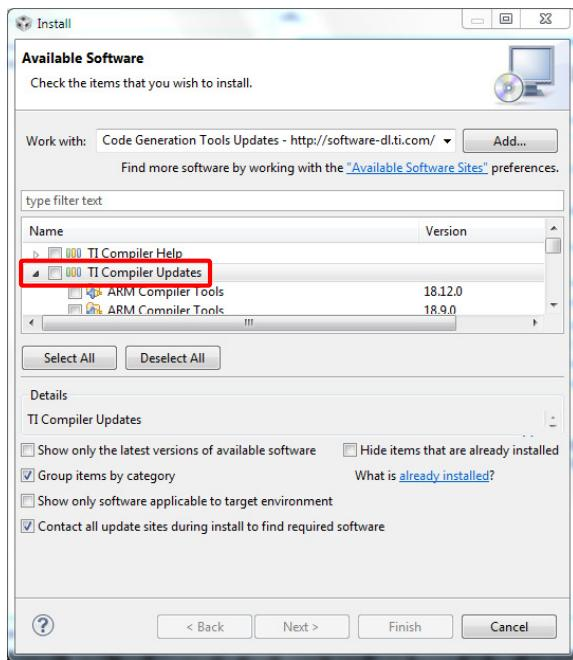
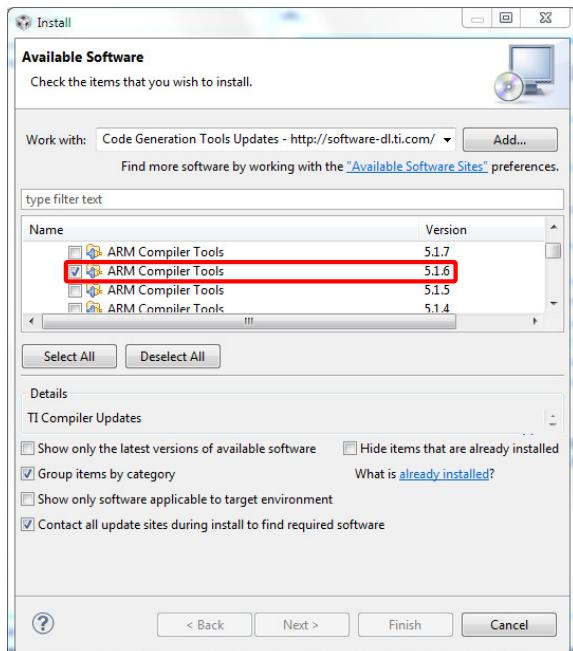

Figure 5.6: **TI Compiler Updates** branch
Figure 5.7: **ARM Compiler Tools 5.1.6**
4. From the list of tools, expand the **TI Compiler Updates** branch (see Figure 5.6 on the next page) and then select **ARM Compiler Tools 5.1.6** (see Figure 5.7 on the facing page)